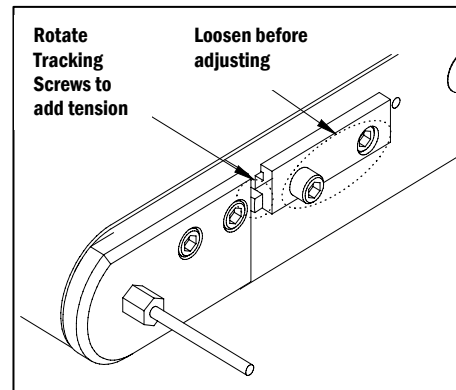

Figure 1
a. Loosen all four 5/16" Driver Assembly screws (there are two on each side of the conveyor) one-half turn (**Figure 1**).